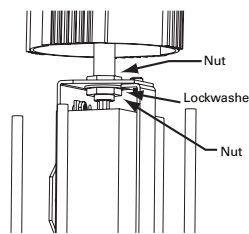

FIG. 4
4. Thread pendant stem through the nut, sheet metal bracket, lockwasher, and second nut. Tighten nuts to secure stem. Reinstall ballast housing with same four (4) screws. **FIG. 4**